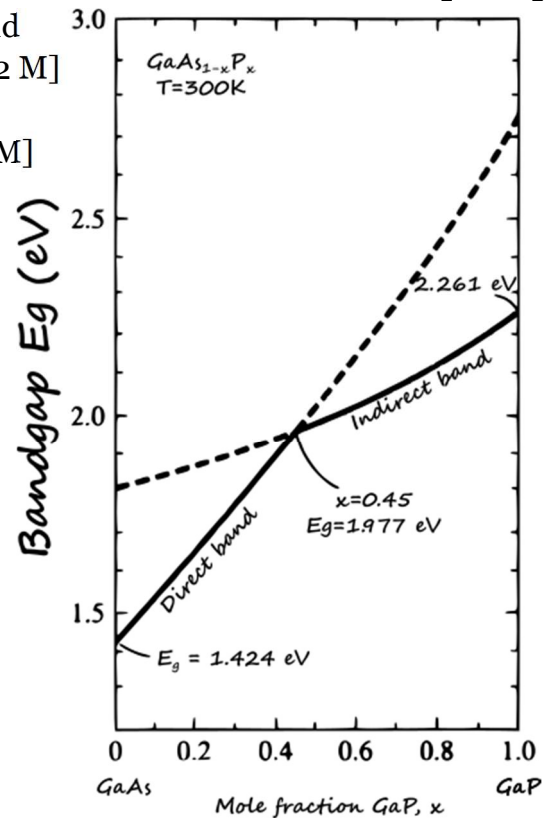

Figure 1. Energy band gap
- d) $Al_xGa_{1-x}As$ is a ternary semiconductor and the energy band gap variation as a function of mole fraction x of $AlAs$ is shown in Figure 1. Which composition can be used as material for blue LED application? [BT 4][3 M]
⑨ Direct and indirect band gap semiconductors
- c) The energy band gap variation as a function of mole fraction x of $GaAs_{1-x}P_x$ is shown in Figure 1. What is the range of colours that can be emitted if used for LED application? Report in wavelength. [BT 3][3 M]